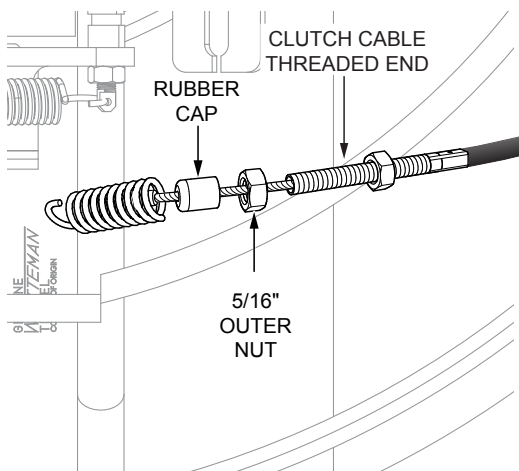

Figure 15. Outer Nut And Rubber Cap Removal
6. Remove the 5/16" outer nut and rubber cap from the threaded end of the clutch cable (Figure 15).